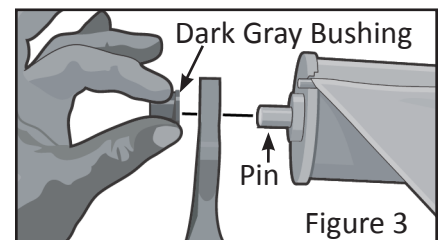

Figure 3
5. On the Roller Bar end that is opposite the Gear Assembly, move the Roller Cap out of the hole in the Roller Bracket. Do not lose the dark gray Bushing that is on the Pin End of the Roller Cap. See Figure 3.